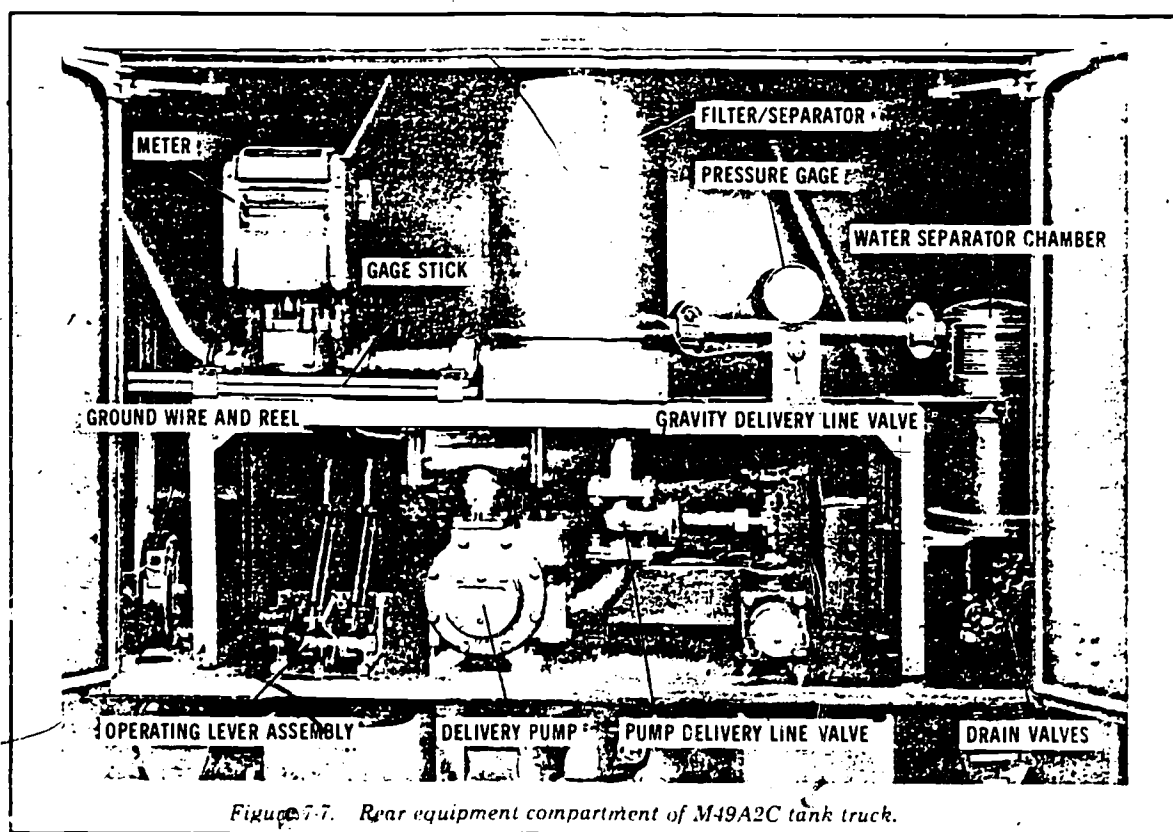

Figure 7-7. Rear equipment compartment of M49A2C tank truck.
shell divided into two 600-gallon compartments. Each compartment has a manhole and filler cover assembly (fig 7-6). There is a walkway on each side of the tank body. One 5-pound carbon dioxide fire extinguisher is mounted on the left rear and one is mounted on the right front of the body walkways. An equipment compartment or cabinet is located at the rear of the tank body. This compartment houses the fuel delivery system of the tank truck. The components of this system and their location in the rear compartment are shown on figure 7-7.
□ **Delivery pump.** A rotary positive-displacement pump located in the rear equipment compartment (fig 7-7) pumps fuel from the tank truck. The pump is
□ **Filter/separator.** There is also an upright filter/separator in the rear equipment compartment (fig 7-7) of the M49A2C tank truck. It has three filter elements, three go-no-go fuses, a pressure gage, and an automatic dump valve.